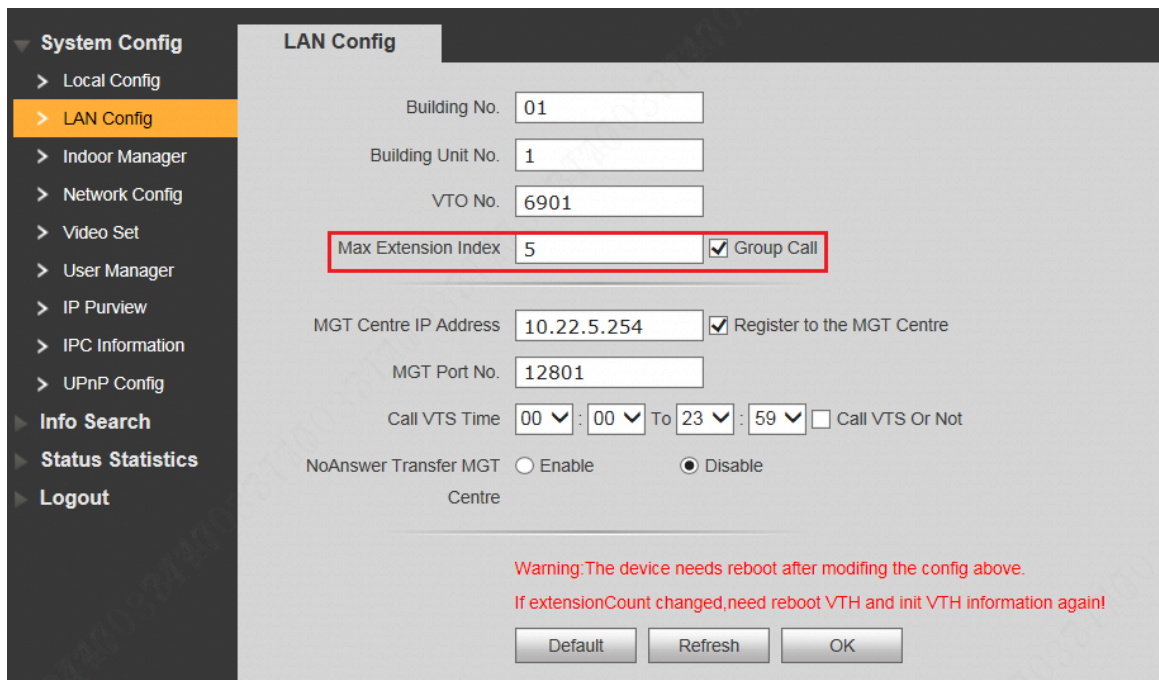

Figure 6-3
- At WEB interface of VTO, select "System Config > LAN Config", set "Max Extension Index" and tick "Group Call" to enable group call function. There is one master VTH at most and five extension VTHs at most, as shown in Figure 6-3.
- Please confirm that "Call VTS or Not" has been canceled, as shown in Figure 6-3.